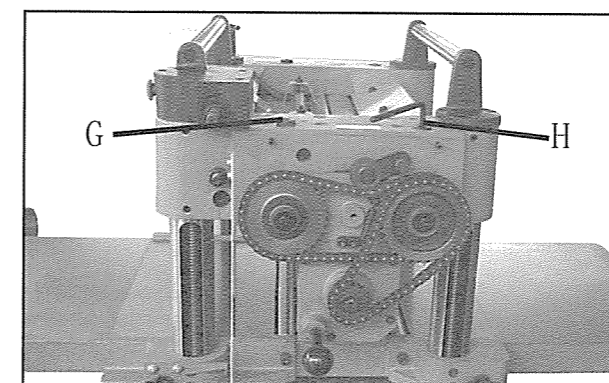

Fig. 25
*To adjust the spring tension of the infeed/outfeed roller, turn the screw (G)/(H) Fig. 25 and also the screw on the opposite end of the infeed/outfeed roller.